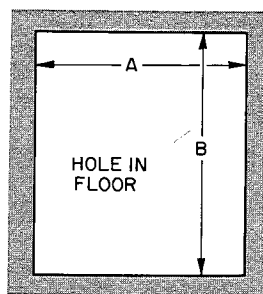

Fig. 4 — Floor Opening for Concrete Slab
2. Construct hole in floor. See Fig. 4 and Table 4.